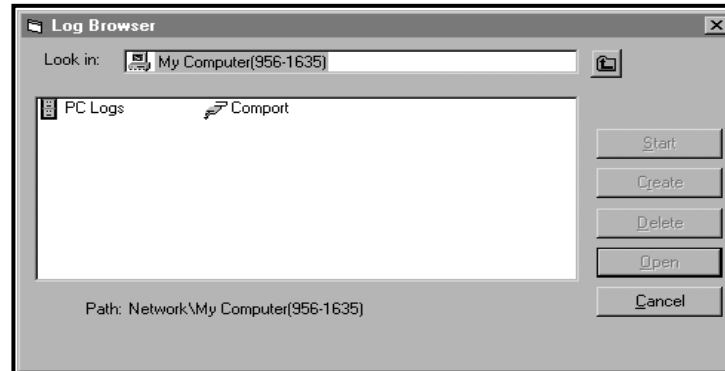

Figure 15: Log Type Selection
2. Double click on the *computer name* to advance to the dialog box shown in Figure 15 on page 7.